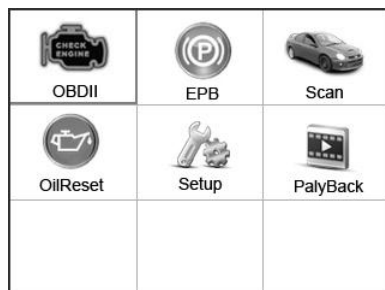
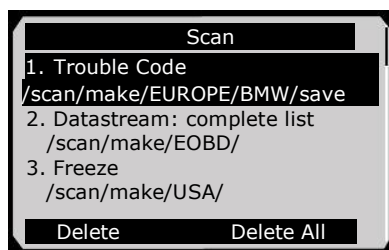

Figure 3.1
Figure 4.1
- 4) Power up the scan tool, and wait for the **Main Screen** to appear. (Figure 3.1)
- 1) Use the **LEFT/RIGHT** scroll button to select **Playback** from **Main Screen** (Figure 3.1), and press the **OK** button. Wait for the **Scan** screen to appear. (Figure 4.1)
- 2) Select the **Scan** icon on the **Main Screen** (Figure 3.1) and then select the desired vehicle area and make.